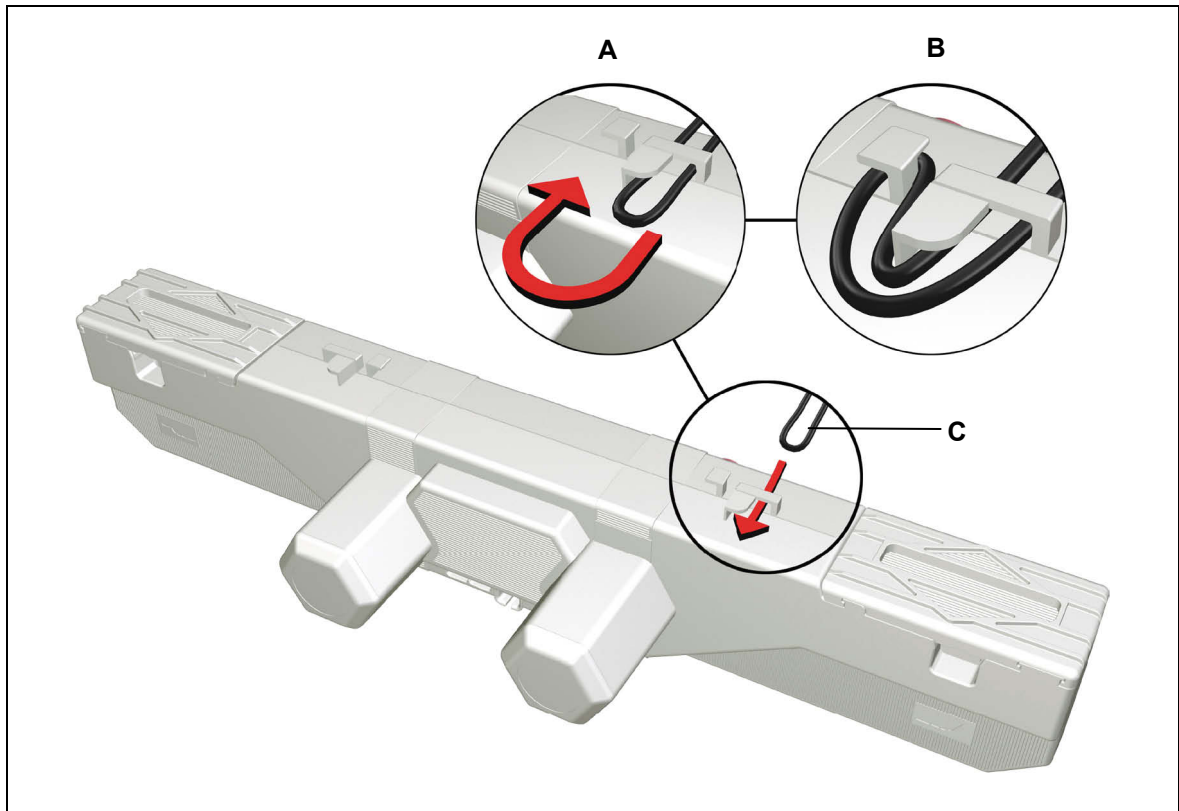

Figure 9 Looping the cable through the strain relief mechanism
- 2 Loop the handset cable through the strain relief catch and pull back gently on the loop as illustrated in Figure 9.